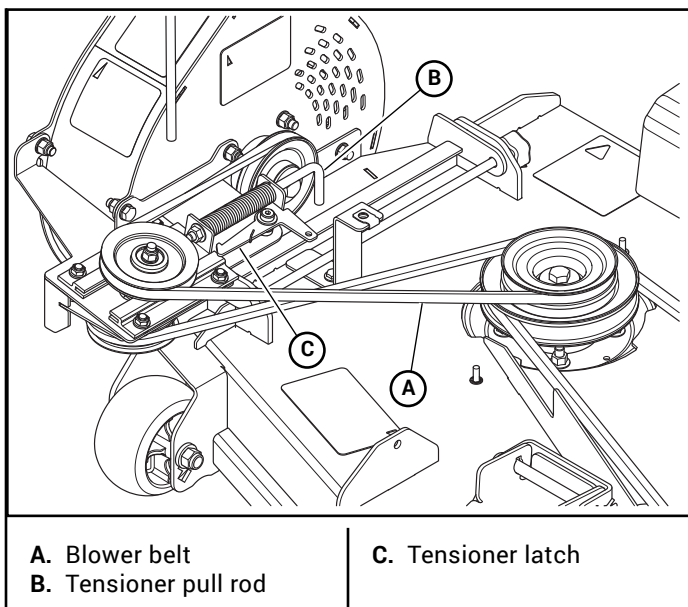

Figure 3-18
23. Release the tensioner latch to tension the belt. Figure 3-18